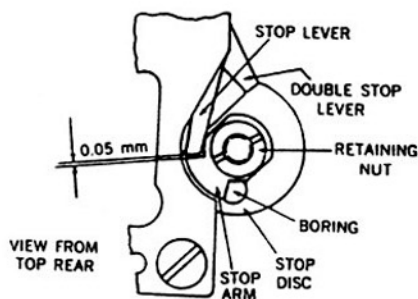

Figure 4-18. Position of Stop Disc.
- (6) Position the stop disc and stop arm as illustrated in figure 4-18, and tighten the retaining nut. Sprocket wheel may have 0.1 to 0.2mm axial play.
NOTE: When the film transport is properly adjusted, there should be approximately 0.05mm of play between the stop lever and stop disc, as illustrated in figure 4-18.